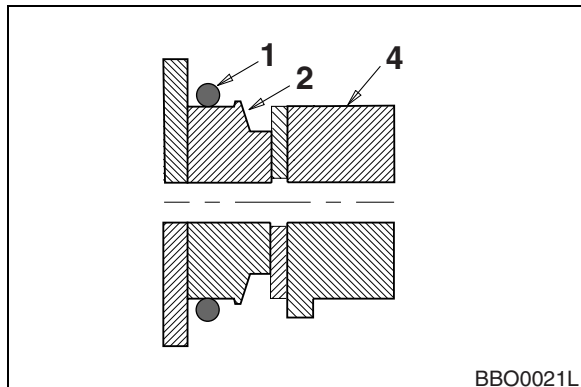

Figure 8
3. Remove the old O-ring and temporarily install the new O-ring (1, Figure 8) onto the bucket boss (2). Make sure that the O-ring groove on both the bucket link (4) and boss have been cleaned.